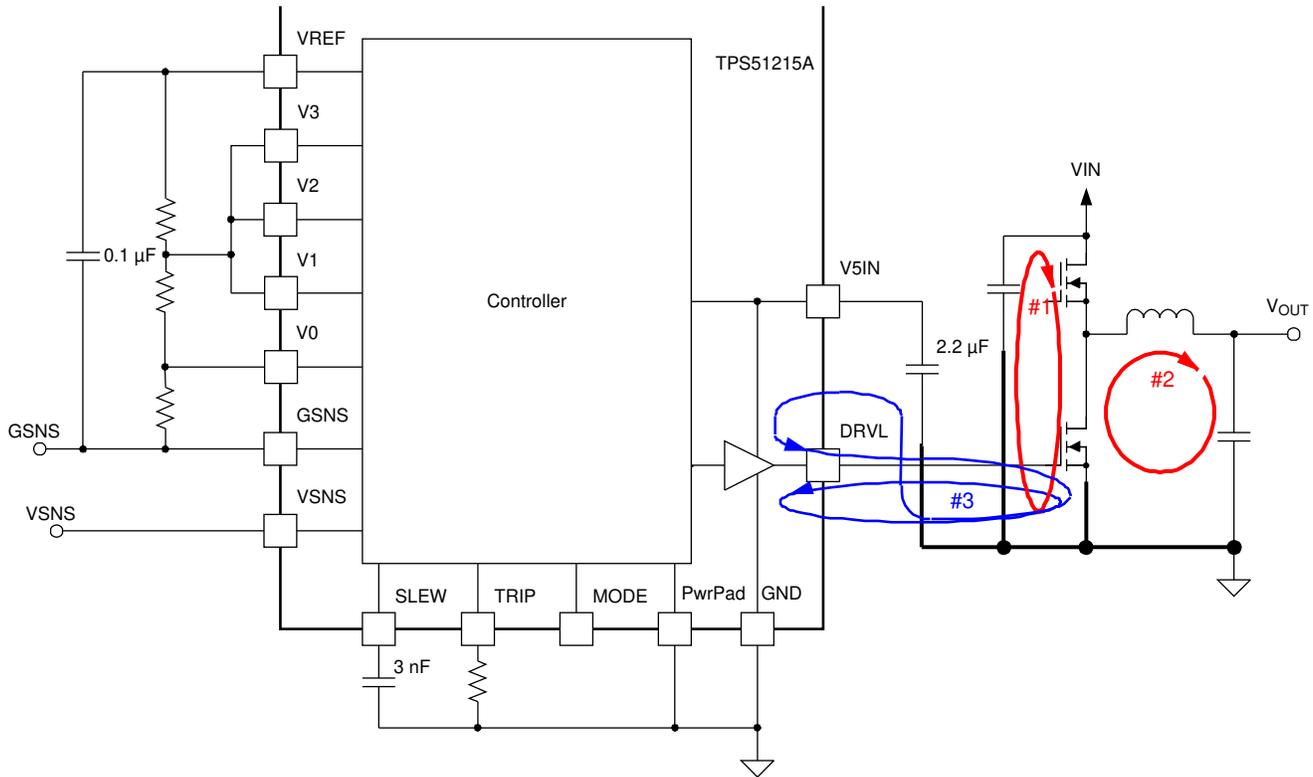

Figure 26. DC/DC Converter Ground System
- Loop #1. The most important loop to minimize the area of is the path from the VIN capacitor(s) through the high and low-side MOSFETs, and back to the capacitor(s) through ground. Connect the negative node of the VIN capacitor(s) and the source of the low-side MOSFET at ground as close as possible. (Refer to loop #1 of Figure 26)
- Loop #2. The second important loop is the path from the low-side MOSFET through inductor and VOUT capacitor(s), and back to source of the low-side MOSFET through ground. Connect source of the low-side MOSFET and negative node of VOUT capacitor(s) at ground as close as possible. (Refer to loop #2 of Figure 26)
- Loop #3. The third important loop is of gate driving system for the low-side MOSFET. To turn on the low-side MOSFET, high current flows from V5 capacitor through gate driver and the low-side MOSFET, and back to negative node of the capacitor through ground. To turn off the low-side MOSFET, high current flows from gate of the low-side MOSFET through the gate driver and PGND, and back to source of the low-side MOSFET through ground. Connect negative node of V5 capacitor, source of the low-side MOSFET and PGND at ground as close as possible. (Refer to loop #3 of Figure 26)